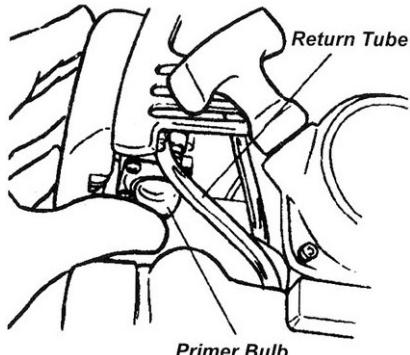

figure 26
3. Prime the engine by depressing the carburetor primer bulb four or five times. See Figure 26. You should be able to see fuel inside the bulb.